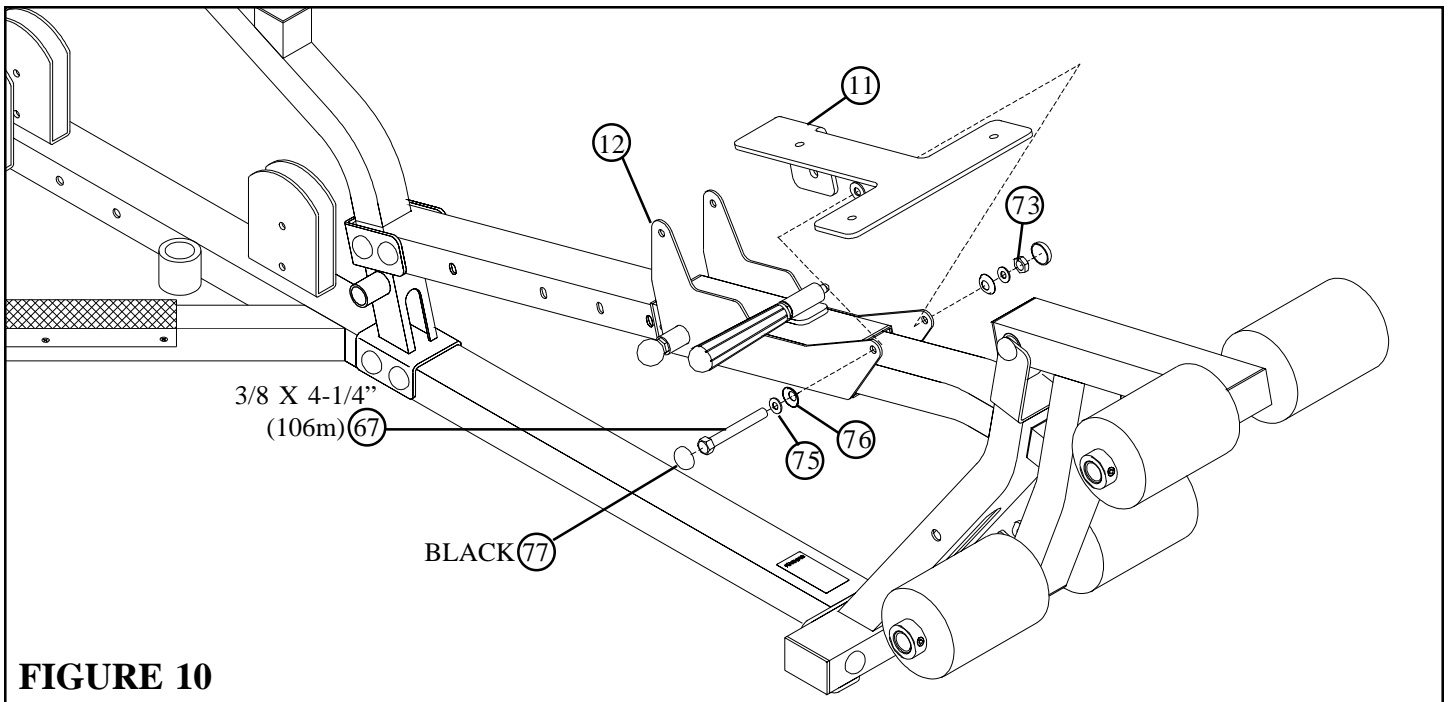

FIGURE 10
- **SECURELY** assemble the SEAT SUPPORT (11) to the ADJUSTABLE SEAT (12) using two BLACK RH CAPS (77), one 3/8 X 4-1/4" BOLTS (67), two 3/8" SAE WASHERS (75), two 3/8" RH WASHERS (76) and one 3/8" LOW HEIGHT LOCK NUT (73) as shown in FIGURE 10.